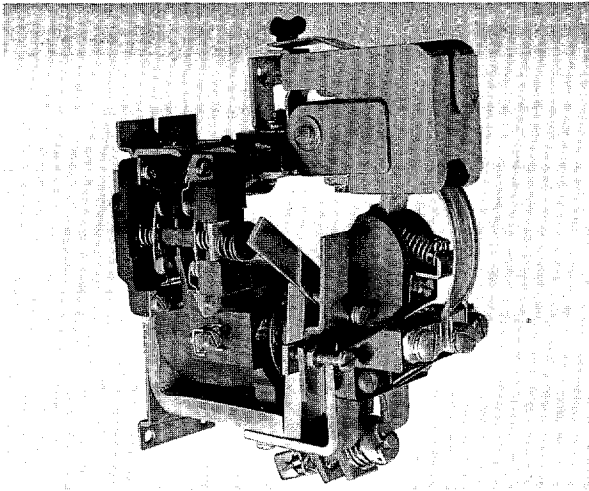
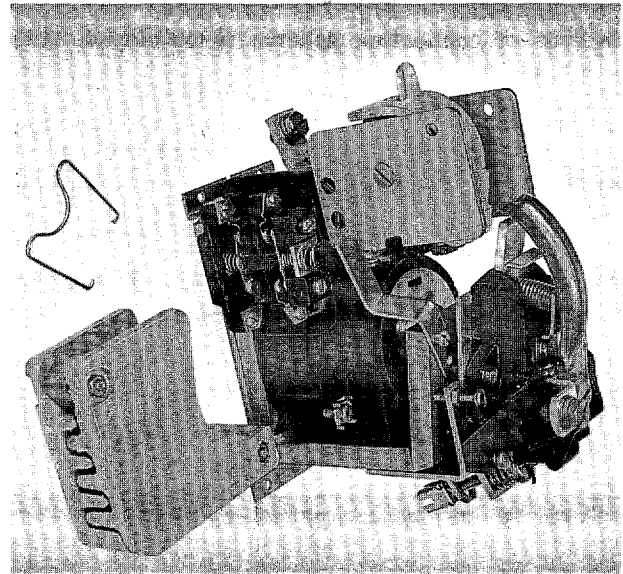

Fig. 1. IC2800-B310 with arc chute in place
Fig. 2. IC2800-B410 with arc chute removed
The armature stop screws, located on each side of the molded movable tip support (Figs. 1 and 2), are normally adjusted by the factory to obtain the gap (A) and wipe (B) for the power tips as shown in Fig. 6.
All poles which have blowouts also have arc chutes. These arc chutes in all cases are clamped in position in one of two ways: either a retainer and wing nut or a spring clamp are used. To remove the arc chute simply loosen the wing nut and swing the retainer aside or unhook the spring clamp (Figs. 1 and 2). Take care to replace the arc chute in the same manner in which it was removed. The retainer or spring clamp should go back into place without any undue forcing. If you encounter trouble, recheck to make sure the arc chute is in place properly.
To replace coils, the complete armature assembly may be removed without disturbing the calibration by removing the two screws that secure the assembly to the frame (Fig. 1). After removing the armature assembly, take out the coil retainer which fits into a groove in the core. Replace the coil, making sure that the spring washer and any other spacers are also replaced in the same order in which they were removed. Take care also that the armature is replaced in the same manner as it was removed and support (K) (Fig. 2) fits into V grooves of bracket (L). As an added precaution, check the contact gap and wipe as given in Fig. 6.